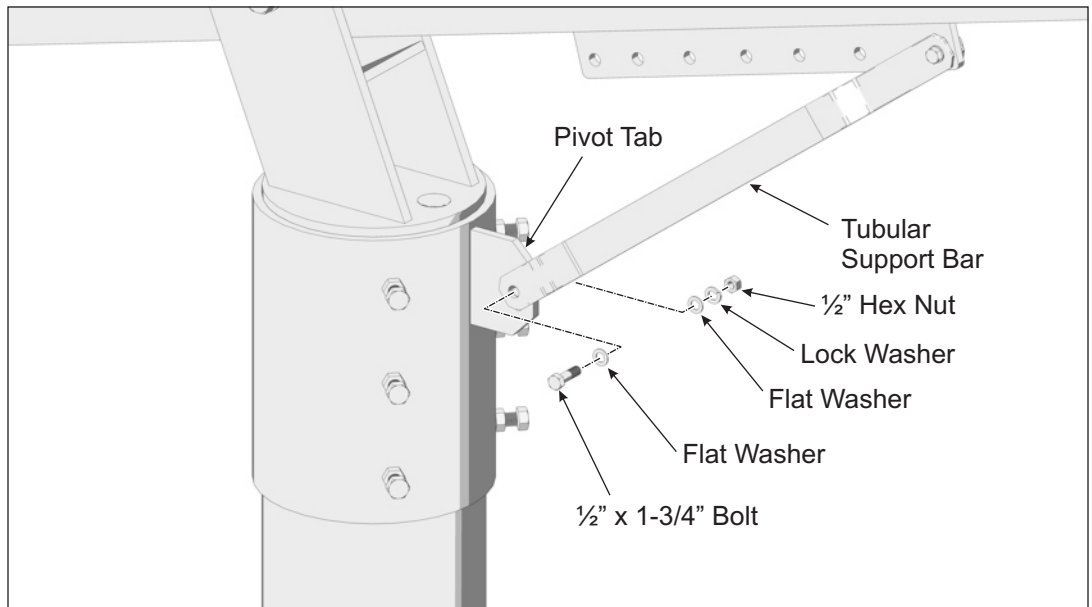

Figure 2-3: Securing Support Bar to Mounting Sleeve
- F. Pivot the Strongback and the Support Bar to align the mounting holes of the Support Bar with its Pivot Tab on the Mounting Sleeve. Slide the Support Bar over the Pivot Tab. Insert the 1/2" x 1-3/4" bolt and one flat washer through the Support Bar and Mounting Tab and secure it with the remaining flat washer, lock washer and hex nut. **Torque hardware on both ends of Support Bar at 72-80 ft.-lbs.** (See Figure 2-3)